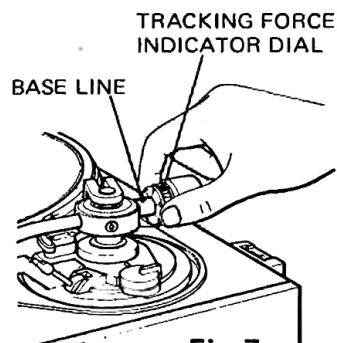

Fig. 7
- 2 Hold the tone arm counterweight and set the tracking force indicator dial to the zero position relative to the base line (Fig. 7). The tone arm and cartridge assembly are now correctly balanced.